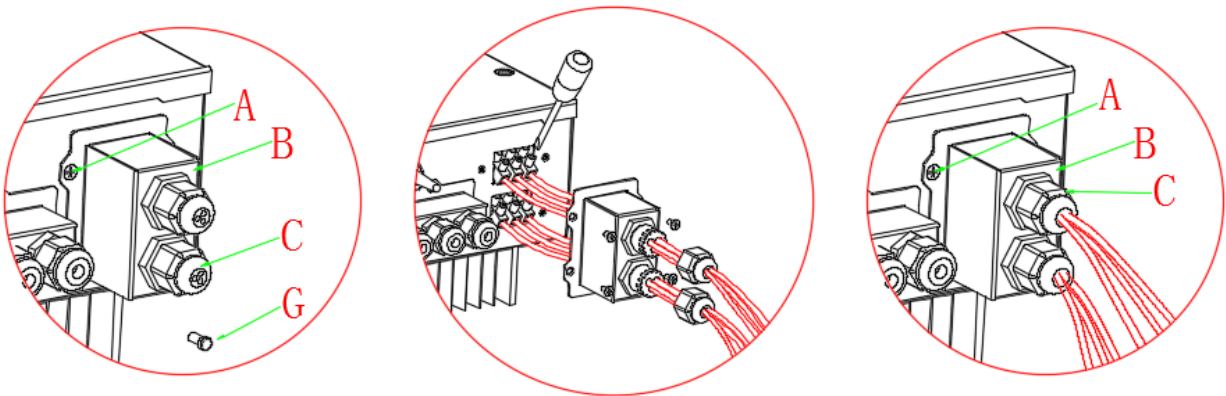

Fig. 17 Grid & Load connection
Step 1: Loosen 4 screws (part A) using a screwdriver (fig. 17)